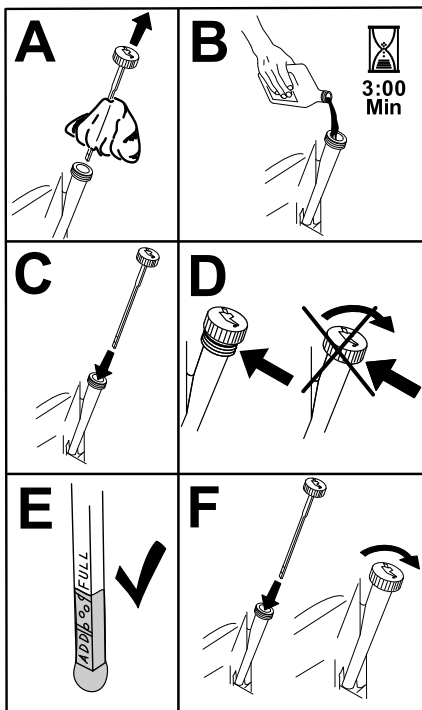

Figure 56
5. Slowly pour approximately 80% of the specified oil into the filler tube and slowly add the additional oil to bring it to the **Full** mark (Figure 56).